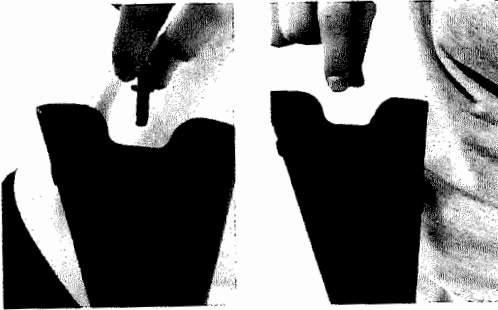

Fig. 23
7. After unscrewing M8x25 hex bolt, remove the stock nut and stock locking plate. (Fig. 23)